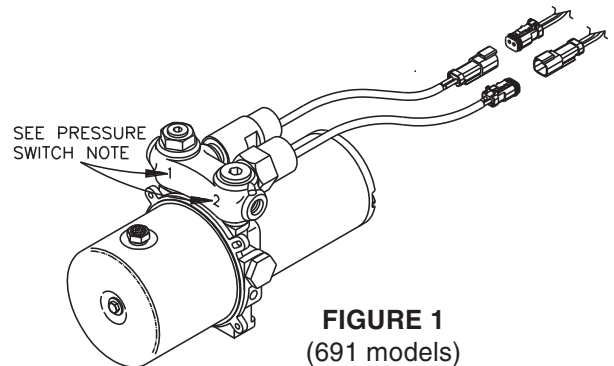
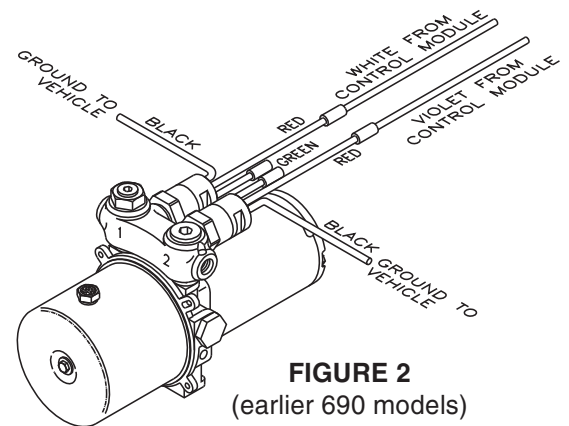
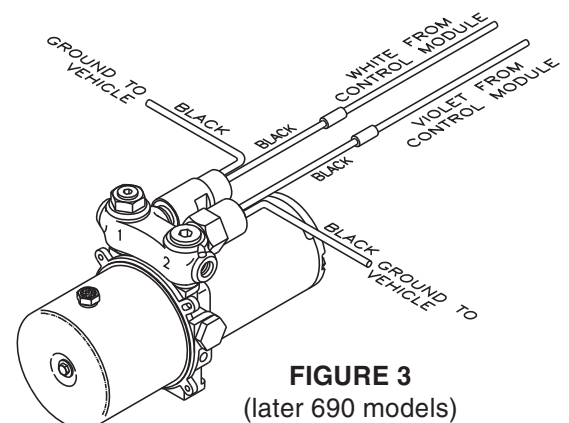

FIGURE 1
FIGURE 2
FIGURE 3
Regardless of manufacture date, the position of the high and low pressure switches have remained the same. See Figure 1, position 1 will always have a pressure switch stamped 1-800 and position 2 will always have a pressure switch stamped 2-10. Be sure to install the correct replacement switch.
2. **691 models:** Reattach wire connectors. See Figure 1.
3. **690 models:** Earlier models of the 690 power unit provided a black wire, red wire, and green wire from each of the pressure switches as shown in Figure 2. These style switches are no longer available. Later models use pressure switches which provide two black wires from each as shown in Figure 3. When replacing pressure switches, either one of the black wires from each pressure switch can be used to connect to ground. Connect the other black wire from the pressure switches to the white wire or violet wire as shown in Figure 3. The pressure switch that connects to the white wire is stamped 1-800. The pressure switch that connects to the violet wire is stamped 2-10. **NOTE: Replacement switches may have connectors similar to FIGURE 1. Remove connectors as needed.**
1. **691 models:** Remove old power unit and install new power unit. Reattach wire connectors. See Figure 1.
2. **690 models:** Remove old power unit and install new power unit. Note that replacement power units have connectors similar to FIGURE 1. Remove connectors as needed. Earlier models of the 690 power unit provided a black wire, red wire, and green wire from each of the pressure switches as shown in Figure 2. Later models use pressure switches which provide two black wires from each as shown in Figure 3. When replacing the power unit, either one of the black wires from each pressure switch can be used to connect to ground. Connect the other black wire from the pressure switches to the white wire or violet wire as shown in Figure 3. The pressure switch that connects to the white wire is stamped 1-800. The pressure switch that connects to the violet wire is stamped 2-10.